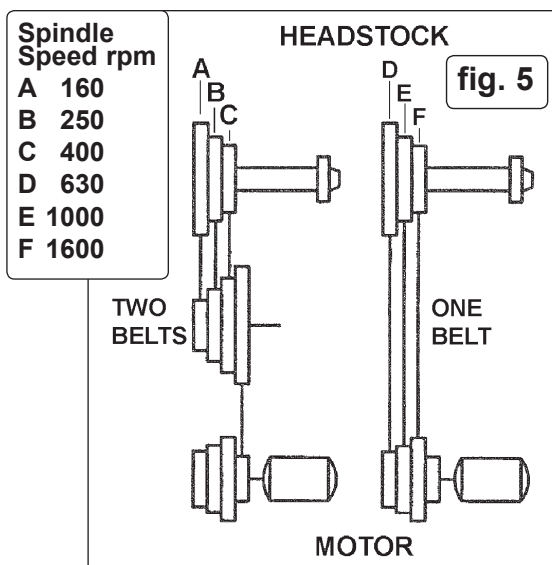

fig. 5
4.6.3. Position the belt(s) to give the required lathe speed, see fig. 5.